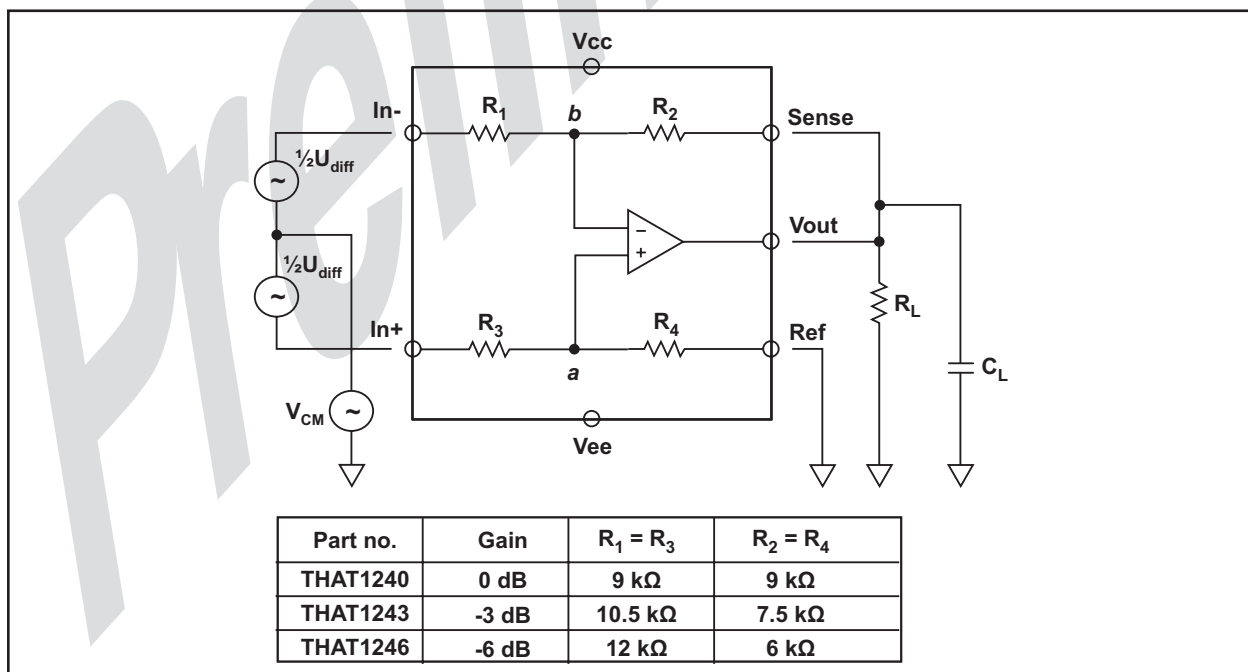
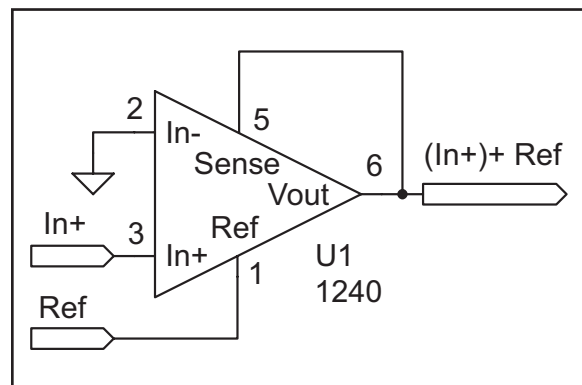

Figure 2. THAT1240 series test circuit
Figure 5. Precision summing circuit
- See test circuit in Figure 2.
Like other amplifiers of this type, all of THAT Corporation's line receivers can accept common mode voltages that exceed the power supply rails. Consider Figure 2. Assume that the circuit is configured as shown, but with no differential excitation. In+ and In- are shorted together, as are Vout and Sense. Ref is tied to ground.  $a$  and  $b$  will be held at the same voltage by feedback.
Figure 5 shows a THAT 1240 configured as a precision summing amplifier. This circuit uses both the In+ and Ref pins as inputs. Referring to Figure 2, it can be shown by superposition that the voltage at  $a$  will be